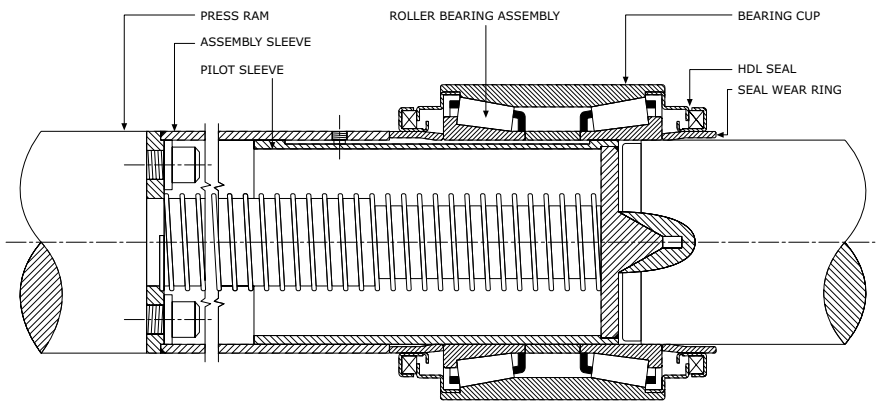

Figure 4 – Telescoping Sleeve method of applying roller bearings to an axle.
- Telescoping pilot and assembly sleeves fastened directly to the ram of the press, as shown in Figure 4.